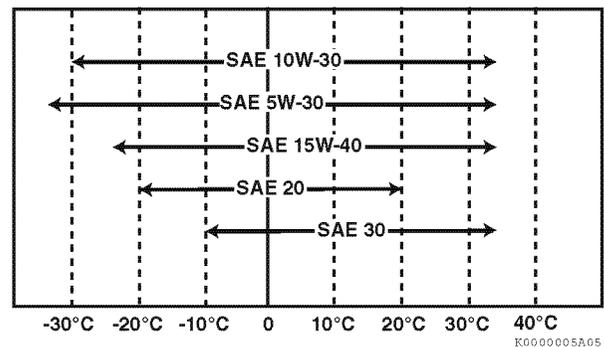

Figure 2
- Select the oil viscosity based on the ambient temperature where the engine is being operated. See SAE service grade viscosity chart (**Figure 2**).
Select the appropriate engine oil viscosity based on the ambient temperature and use the SAE Service Grade Viscosity Chart in **Figure 2**.